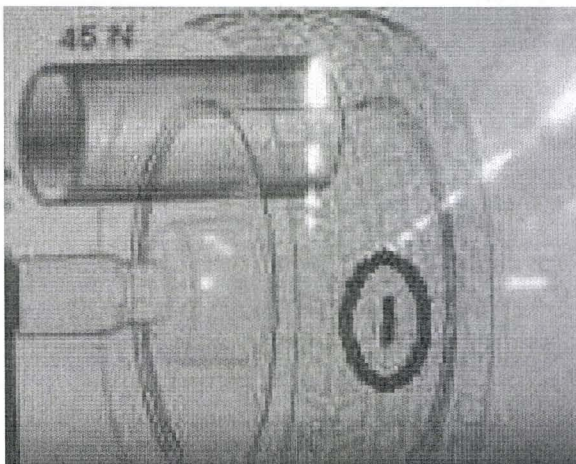

Figure 4
- The assembly high spot is identified with a brown dash (Figure 4).